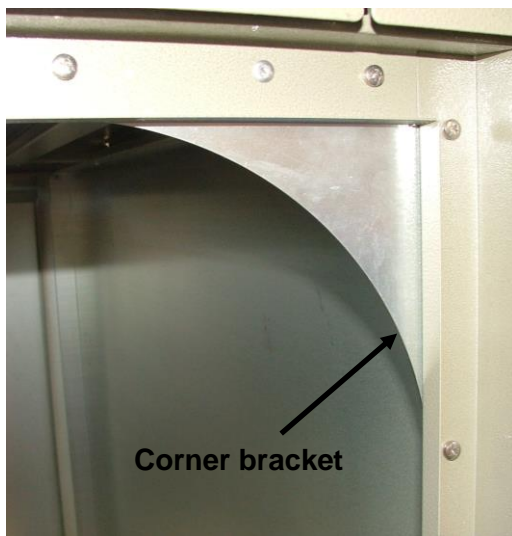

Figure 3-2. Top right corner bracket
- Remove the corner bracket from the top right hand corner of the front door opening. Refer to Figure 3-2. Keep this bracket, and the four fixing screws, as this will need to be replaced once the boiler is installed.